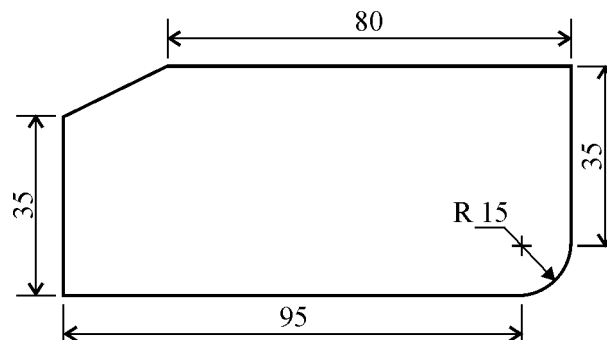

Figure No. 2
- (c) Prepare a part programme for the component as shown in Figure No. 2 on CNC milling.